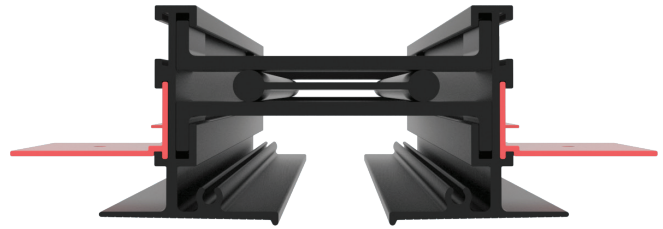

Figure 5 (Step 3B): LAD with F Clip (F22 Clip Shown)
- B. First attach the F Clip to the LAD Linear Slot Diffuser (see Figure 5) with equal spacing between clips.